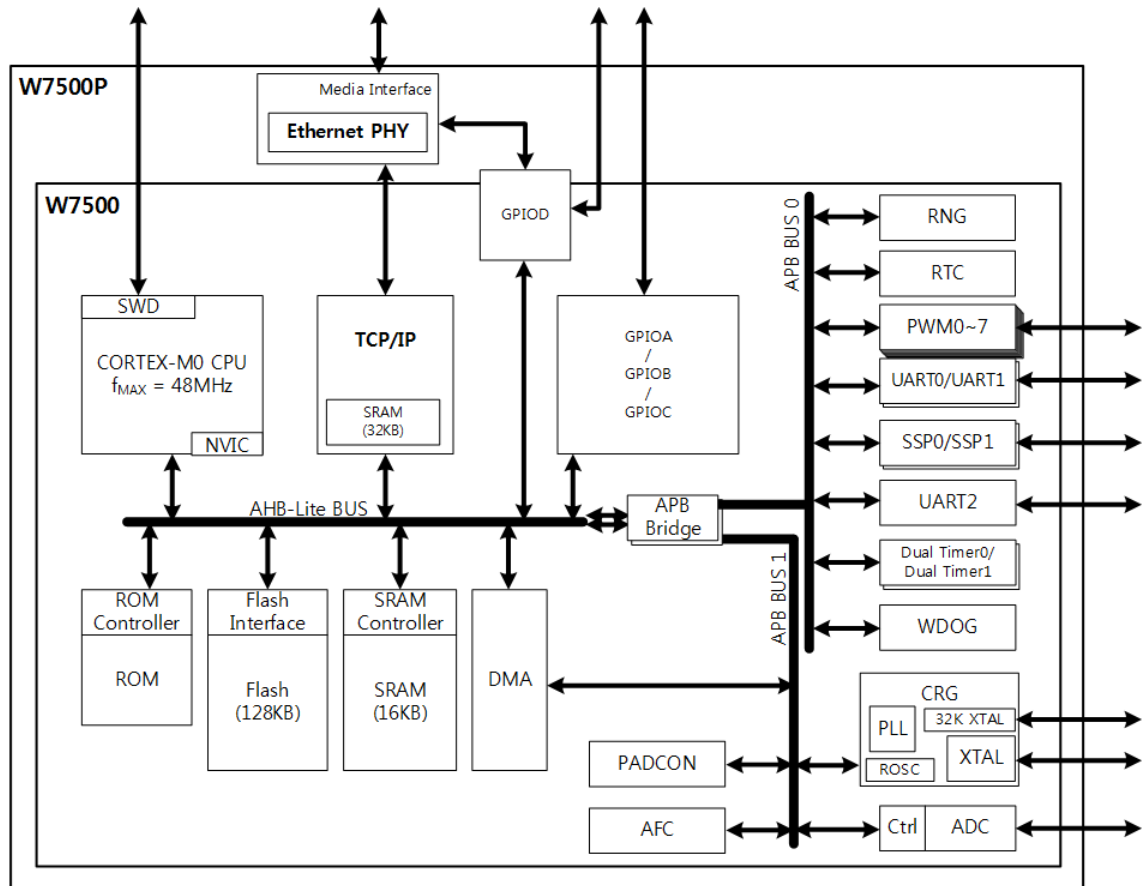

Figure 1. W7500x System Architecture
- Figure 1 shows the general block diagram of the W7500x family.